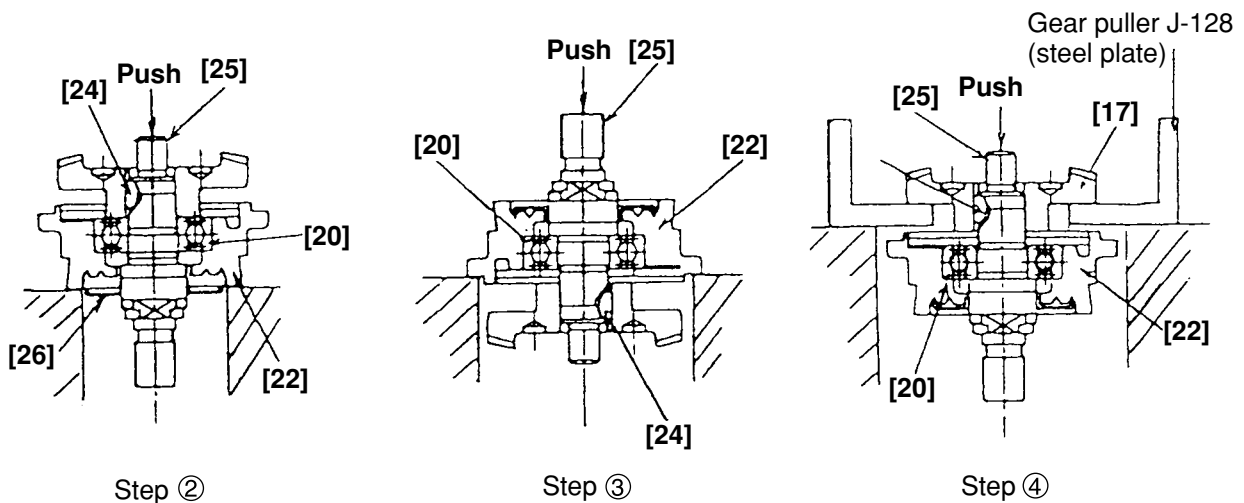

Fig. 3
(3) Disassembly of the stator
- ① Remove the Armature 220 V **[9]** and loosen the Tapping Screw (W/Flange) D4 x 25 (Black) **[48]** to remove Tail Cover (B) **[47]**.
- ② Loosen the Machine Screw (W/Washer) M3.5 x 6 **[49]** that secures the internal wire of the Cord **[51]** to the Switch **[50]** and also the screw on the cord side of the Pillar Terminal **[43]**. Remove the two internal wires from the Cord **[51]**.
- ③ Remove the Tapping Screw (W/Flange) D4 x 40 **[38]** and the Tapping Screw (W/Flange) D4 x 20 (Black) **[37]**. Remove Tail Cover (A) **[36]** then remove the Earth Terminal **[44]** from the Housing **[34]**.
- ④ Disconnect the two Internal Wires **[13]** coming from the Brush Holder **[41]** from the Stator **[11]**.
- ⑤ Remove the Internal Wires **[12]** and **[14]** from the Stator **[11]** with the Pillar Terminal **[43]**, Noise Suppressor **[46]** and Switch **[50]** connected.
- ⑥ Loosen the Hex. Hd. Tapping Screw D4 x 65 **[10]** securing the Stator **[11]**. Remove the Stator **[11]** from the Housing **[34]**.
(4) Disassembly of the gear (Fig. 3)
- ① Loosen the Seal Lock Screw (W/Sp. Washer) M4 x 12 [23] fixing the Packing Gland [22], and remove the Packing Gland [22] from the Gear Cover Ass'y [3].
- ② Support the button of the Packing Gland [22] with a jig, and push down on the upper portion of the Spindle M10 x P1.5 [25] with a hand press until the end surface of the Woodruff Key 2.5 x 8 [24] contacts the Ball Bearing 6001VVCMP2L [20] and the Spindle M10 x P1.5 [25] cannot be pushed down any more. Be careful not to deform the Fringer [26].
- ③ Turn the Packing Gland [22] upside down and fix it, then push down the Spindle M10 x P1.5 [25].
- ④ Insert the gear puller J-128 (use of a steel plate is permitted as a substitute) between the Gear [17] and the Packing Gland [22], and push down the Spindle M10 x P1.5 [25] with a hand press to remove it.